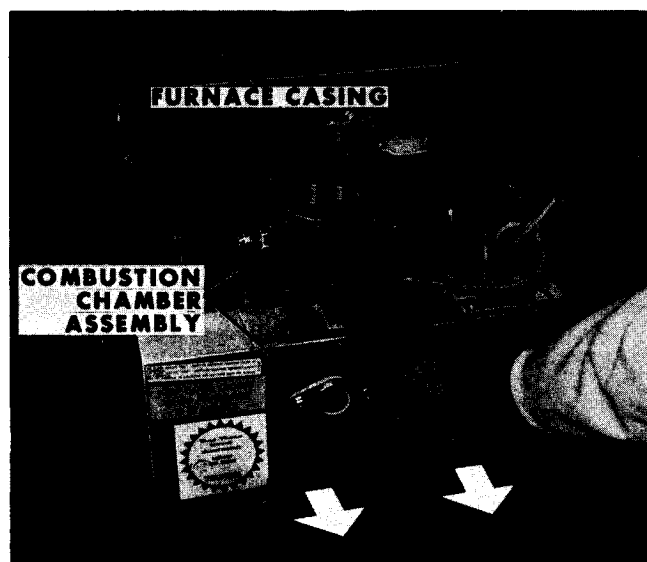

Figure 9 – Removing Combustion Chamber Assembly
8. Carefully pull combustion chamber assembly out of furnace casing (Figure 9). Remove from vehicle.